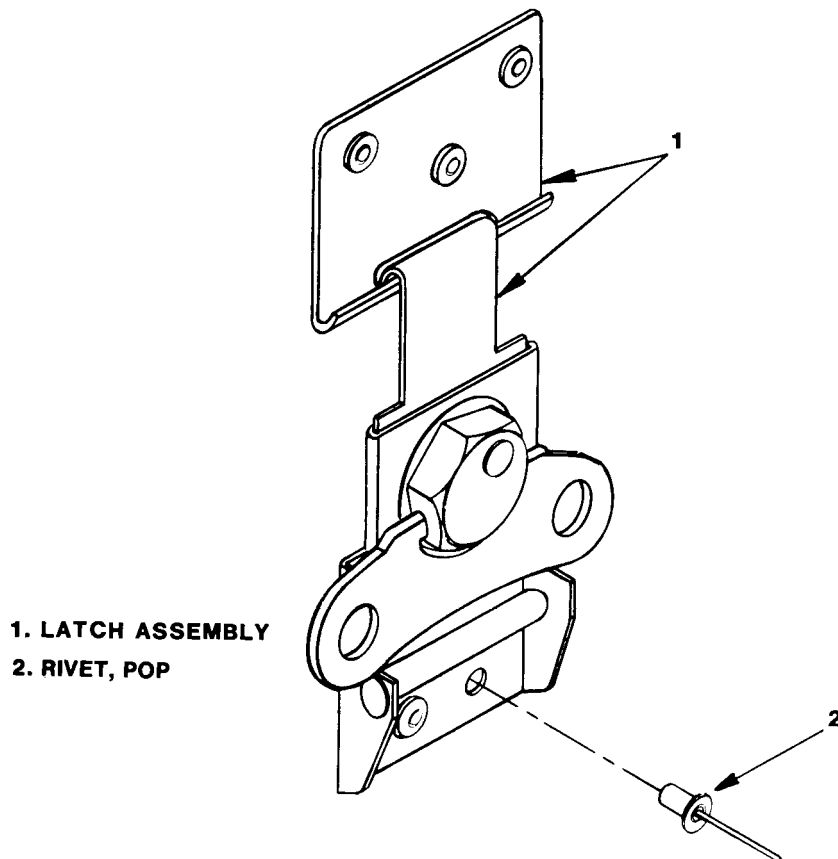

Figure 5-9. Latch Assembly, Exploded View.
- (3) Place drill bit stop into drill chuck and tighten.
- (4) Carefully drill out latch pop rivets (2, Figure 5-9) from section of latch assembly (1).
- (1) Place section of latch assembly (1, Figure 5-9) into position on
- (2) Install 3/16" pop rivet (2) using pop rivet gun.